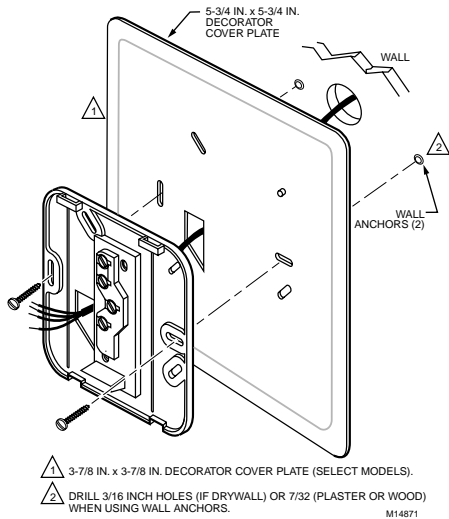

Fig. 3. Mounting decorator cover plate and wallplate to the wall.
- Position the decorator cover plate and wallplate on the wall. Level the wallplate for appearance, if desired. Use a pencil to mark the two mounting holes that best fit the application. See Fig. 3